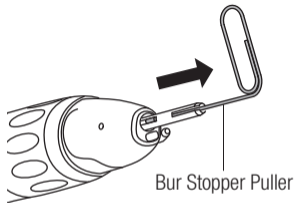

Fig. 4
- 2) Insert the supplied Bur Stopper Puller into the chuck. Pull out the Bur Stopper by hooking at the slit of Bur Stopper. (Fig. 4)